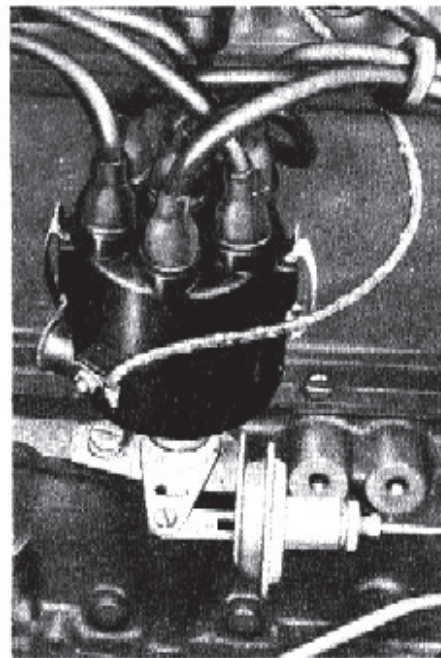

Fig. 37—Octane Selector
**Ignition Timing.** Set the octane selector at "0" on the scale (fig. 37), and attach a Neon Timing Light to No. 1 spark plug. Start the engine and run it at idling speed. Loosen distributor clamp and rotate the distributor body clockwise or counter-clockwise until the steel ball in the flywheel lines up with the pointer on the flywheel housing. Tighten the distributor clamp screw.
**Octane Selector.** When changing to a grade of fuel with a higher or lower octane rating it may be advisable to advance or retard the spark slightly. Advance the spark to take advantage of higher octane fuel and retard it to prevent excessive detonation with lower octane rated fuels. Note the position of the octane selector scale (fig. 37), loosen the clamp bolt and move the distributor assembly toward advance or retard as desired and tighten the clamp bolt securely. By adjusting the spark in this manner it can be readjusted to the original setting when desired without special ignition timing equipment.